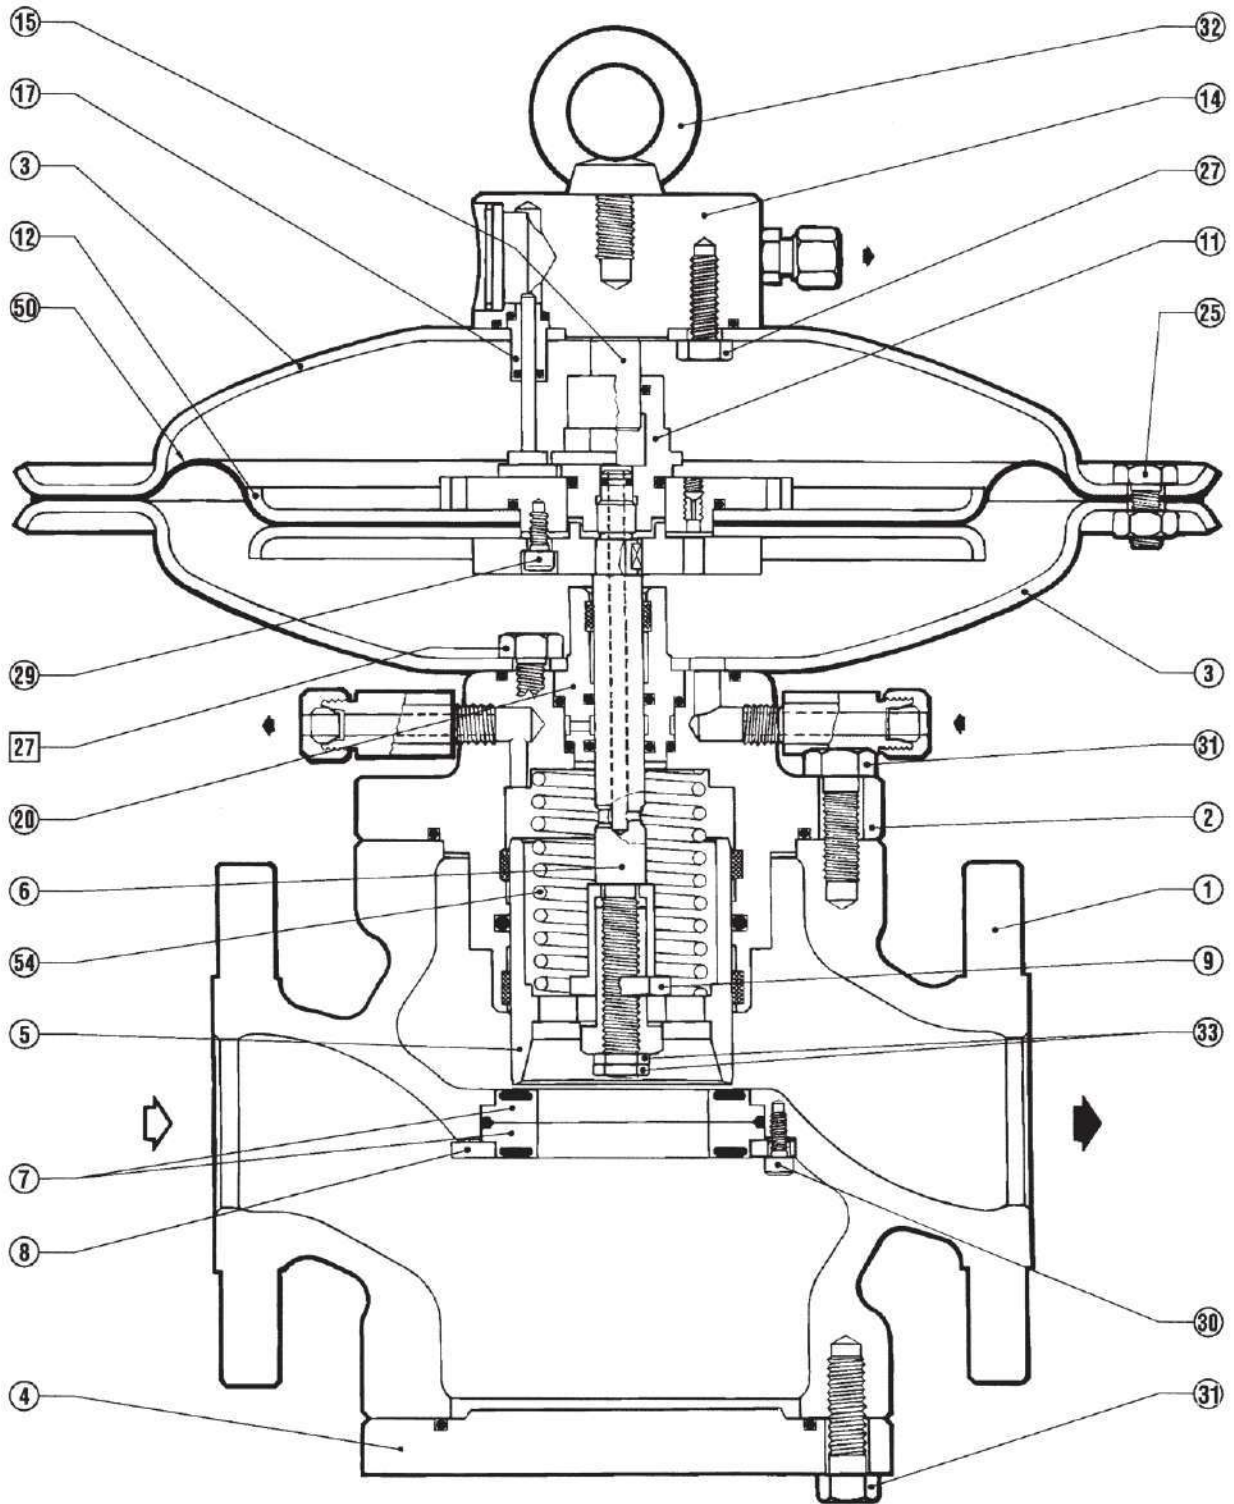

Fig. 22
- 33)* Slacken the lock nuts, pos. (33), of the obturator, pos. (5), of the rod, pos. (6), and remove the obturator, pos. (5), from the obturator guide, pos. (2).
- 34)* Completely slacken the spring, pos. (54), by unscrewing the lock nut, pos. (9).
- 35) Slacken the fixing screws, pos. (31), on the bottom blind flange, pos. (4).
- 36) Remove the bottom blind flange, pos. (4).
- 37) Slacken the fixing screws, pos. (30), of the lock ring, pos. (8), of the reinforced gaskets, pos. (7).
- 38) Remove the lock ring, pos. (8), and the reinforced gaskets, pos. (7).
- 40) Carefully control the condition of the obturator seat, pos. (5).
* (fig. 22).
- 44)* Reassemble the spring, pos. (54) and screw the lock nut, pos. (9), fully in. Fix the obturator, pos. (5), to the rod, pos. (6), and block the nuts, pos. (33).
- 45) Reassemble the regulation unit on the main body, and fix the screws, pos. (31).